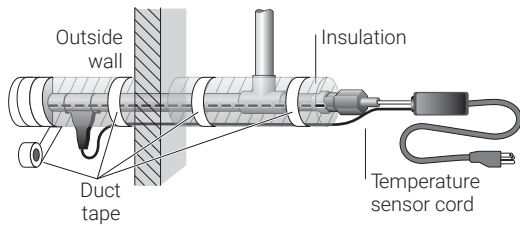
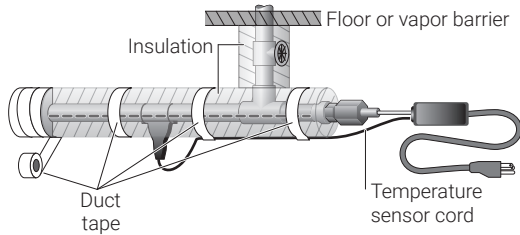

Figure 10
Figure 11
9. Install 1/2 in (13 mm) minimum thickness closed cell split tube insulation over all pipe, with and without heating cable inside. Also cover valve bodies and temperature sensor with insulation (see Figure 10 and Figure 11).